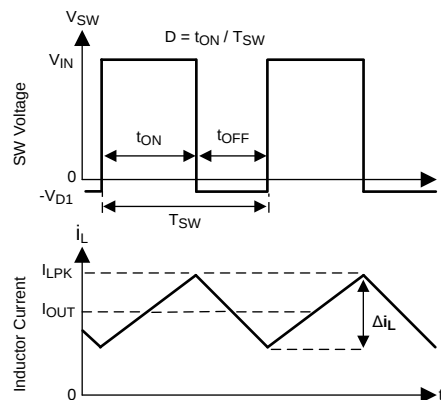

Figure 25. SW Node and Inductor Current Waveforms in Continuous Conduction Mode (CCM)
The following operating description of the LM43602 will refer to the Functional Block Diagram and to the waveforms in Figure 25. The LM43602 is a step-down Buck regulator with both high-side (HS) switch and low-side (LS) switch (synchronous rectifier) integrated. The LM43602 supplies a regulated output voltage by turning on the HS and LS NMOS switches with controlled ON time. During the HS switch ON time, the SW pin voltage  $V_{SW}$  swings up to approximately  $V_{IN}$ , and the inductor current  $i_L$  increases with a linear slope  $(V_{IN} - V_{OUT}) / L$ . When the HS switch is turned off by the control logic, the LS switch is turned on after a anti-shoot-through dead time. Inductor current discharges through the LS switch with a slope of  $-V_{OUT} / L$ . The control parameter of Buck converters are defined as Duty Cycle  $D = t_{ON} / T_{SW}$ , where  $t_{ON}$  is the HS switch ON time and  $T_{SW}$  is the switching period. The regulator control loop maintains a constant output voltage by adjusting the duty cycle  $D$ . In an ideal Buck converter, where losses are ignored,  $D$  is proportional to the output voltage and inversely proportional to the input voltage:  $D = V_{OUT} / V_{IN}$ .